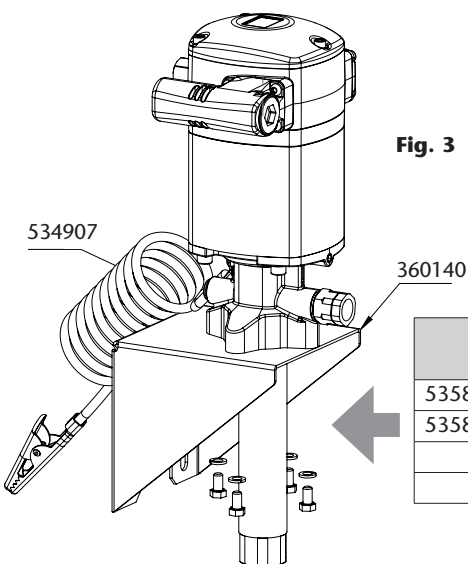

Fig. 3
- Wall mounting with screws. Insert the pump through the wall bracket (360140) and fix it with 4xM8 screws (Fig. 3).